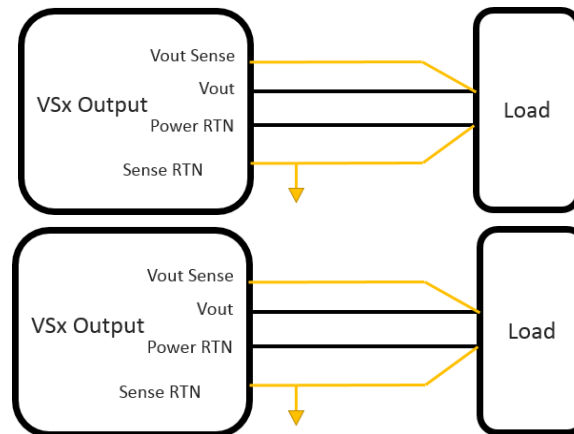

Figure 3: M4365 Sense line connection
*Sense Lines* proper connection is shown in Figure 3.